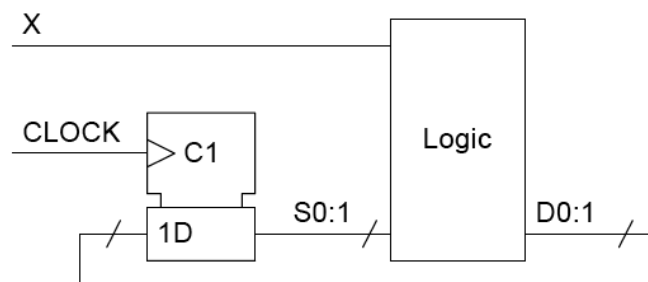

Figure 1.5
- (e) *Figure 1.5* shows the circuit of a synchronous state machine with one input *X* and four states defined by the 2-bit binary number *S0:1*.